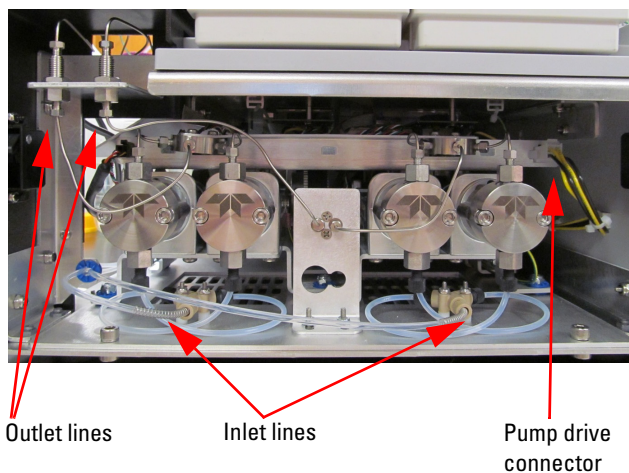

Figure 6-20 Pump assembly
5. Remove the two stainless steel outlet lines connected to the bulkhead fittings using a $\frac{1}{4}$ " wrench. Remove the two bottom inlet lines going to the bottom 'Y' fittings and disconnect the pump drive connector (Figure 6-20).
6. Remove the Pump Communication Connection located behind the right side arrow pointing to the outlet lines (Figure 6-20).